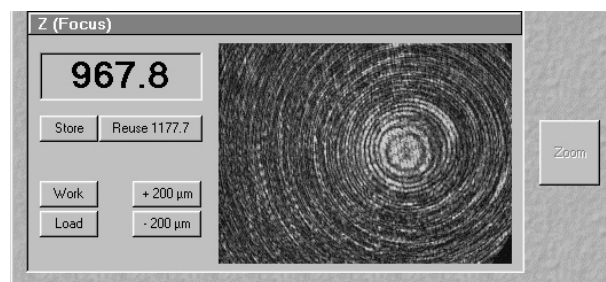

Fig. 3-34 Camera image far away from the lower cover slip surface
- The camera window shows interference fringes caused by the laser light (Fig. 3-34).